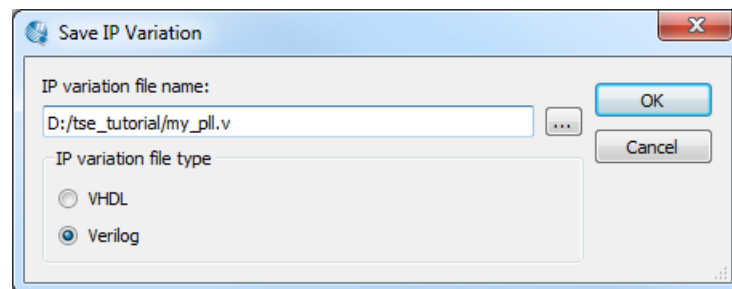

Figure 13. The IP Catalog.
3. Choose the **Verilog** as the output file type for your design, and specify *my_pll.v* as the name of the output file as shown in Figure 13, and click **OK**.